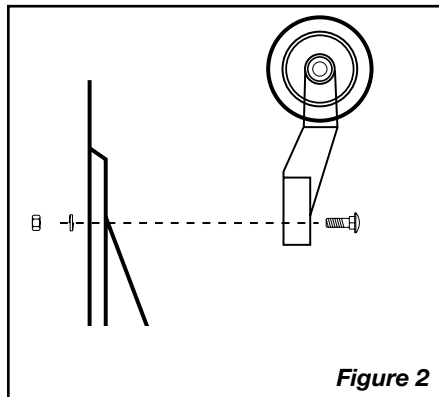

Figure 2
Locate Hardware Bag "D" to Assemble Wheels to Base. (Figures 2 and 3)
4. Align two bolt holes and insert 5/16 - 18 X 1" Long Carriage Bolt. (Figure 2)